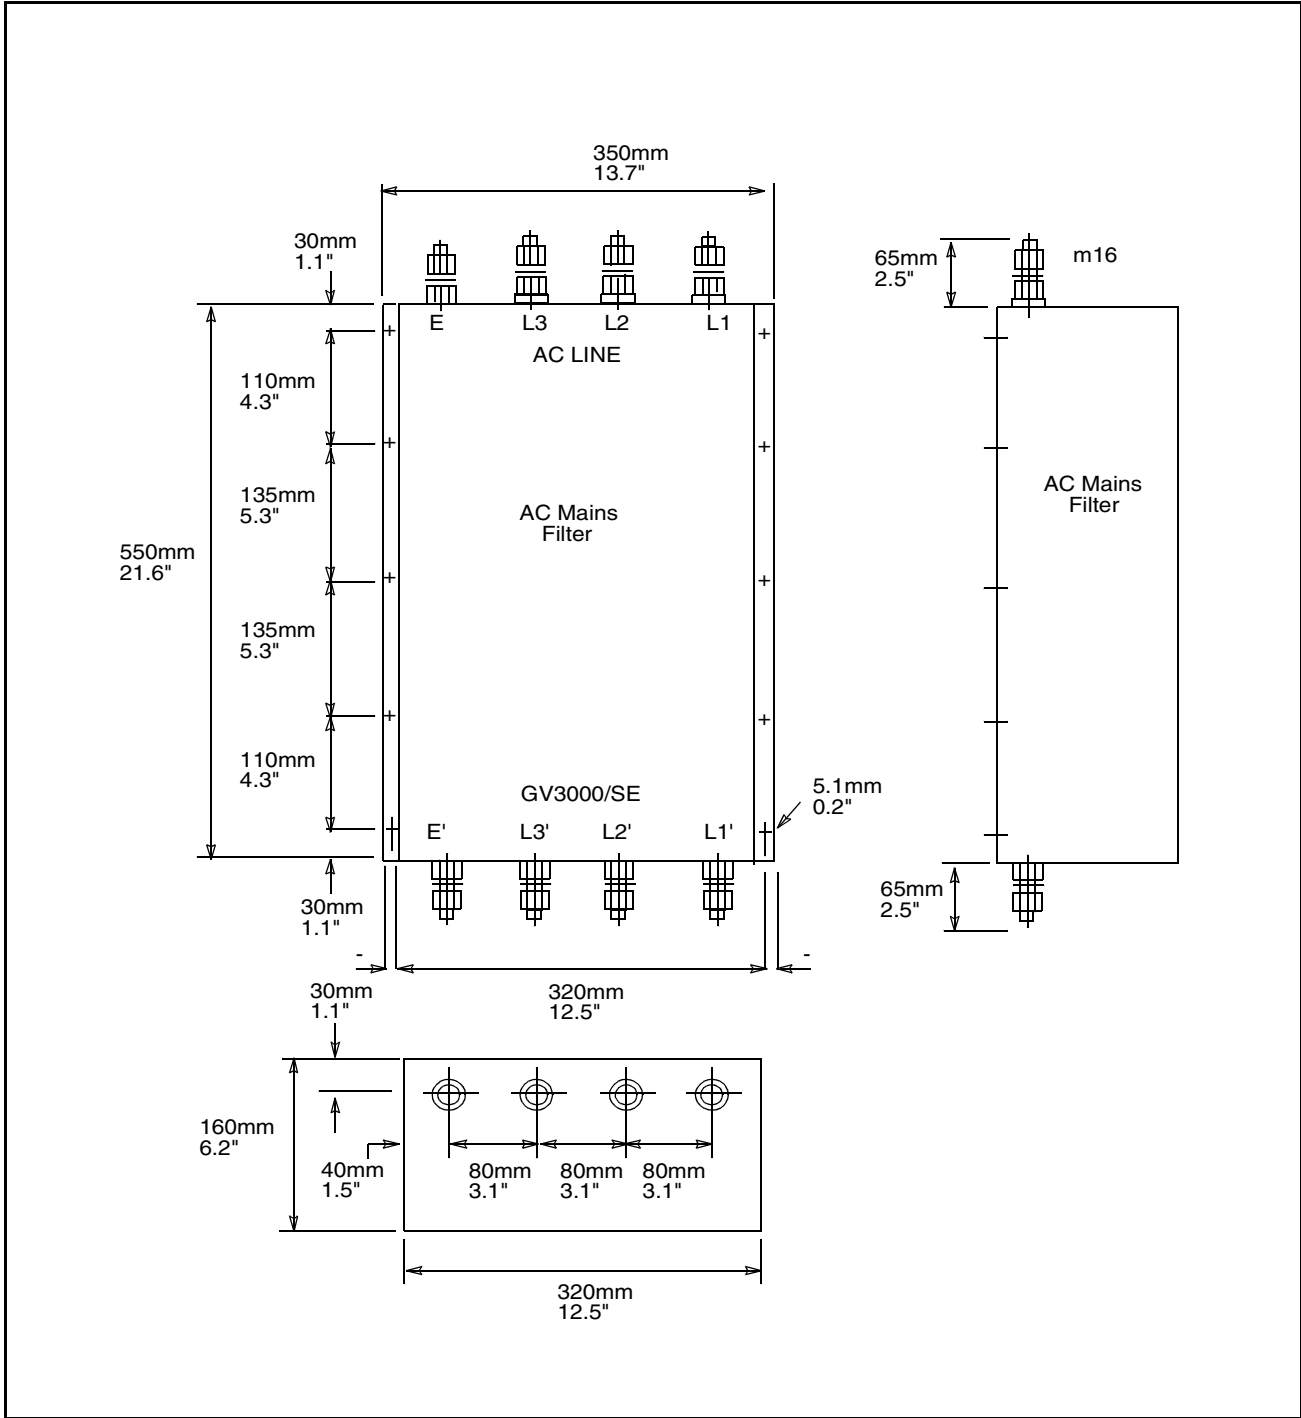

Figure C.2 – M/N 2DF4125 AC Mains Filter Dimensions
* See figure C.2 for mounting dimensions.
GV3000/SE drive M/N 125R41xx and AC Mains Filter M/N 2DF4125 are to be mounted separately. See figure C.2. They must be mounted on a steel surface with good conductivity between the two assemblies, for example, the mounting surfaces should not be painted.